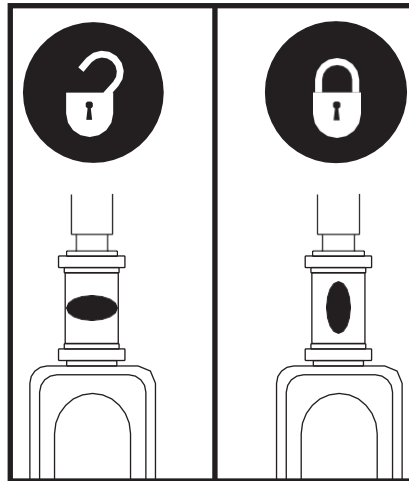

Figure 32. Tiller Lock Knob
1. Remove the key from the key switch and then lock the tiller in the straight-ahead position by pushing the tiller lock knob in and turning it clockwise 90°. **See figure 32**. The front wheel must face forward in order to lock the tiller.
6. Unlock the tiller by turning the tiller lock knob 90° counterclockwise. **See figure 32.**